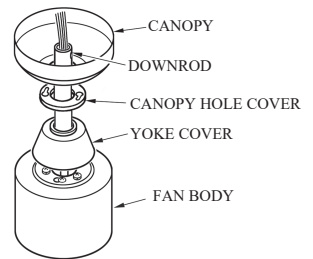
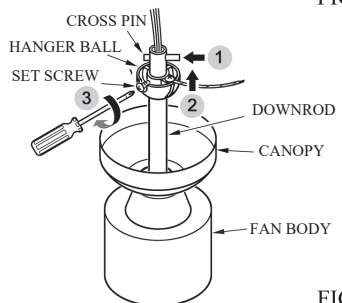

FIG.4
FIG.5
4. Slip the yoke cover, canopy hole cover and canopy onto downrod. Carefully reinstall hanger ball onto rod being sure that cross pin is in the correct position, set screws are tighten and wires are not twisted. (See Fig 4 & Fig.5)